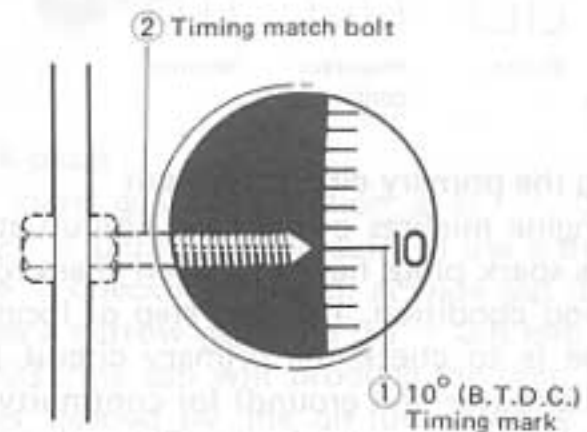

Fig. 9-17
- 1) Turn over crankshaft in normal direction to index the 10° (B.T.D.C.) timing mark ① to the timing match bolt ②. The 10° mark is the one provided on flywheel. See Fig. 9-17. Normal direction of crankshaft is clockwise as viewed from crankshaft pulley side.